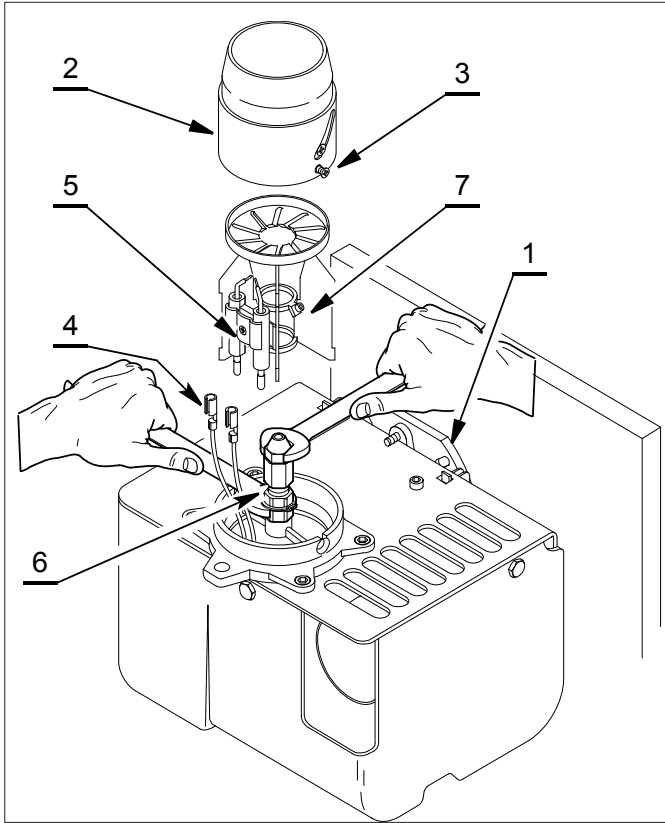
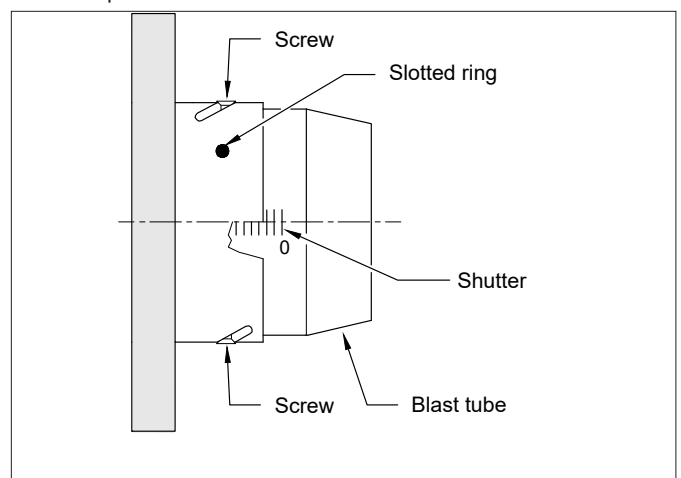

Figure 10-6: Riello RDB 3.2 burner head, diffuser and nozzle holder
Figure 10-8: Riello RDB 3.2 combustion head adjustment
1. Remove the burner head. Refer to Figure 10-6. Loosen both fixing screws (3) and remove head from burner (2).
3. If the nozzle needs to be replaced - Remove the diffuser/ electrode assembly. Refer to Figure 10-6.
- Loosen the diffuser clamp screw (7) and remove the diffuser/electrode assembly from the nozzle holder (6).
- Disconnect both ignition leads (4) from the electrodes.
7. Refer to figure 10-6. Slide diffuser (5) along the nozzle holder (6) until hard against the stop and tighten diffuser clamp screw (7).
9. Re-fit the burner head. Refer to Figure 10-6.
- Tighten the two screws (3) to secure the head (2) in position on the burner.
- In this case the head is set to '4' (i.e. on the 4th line). Refer to Figure 10-8.
- Loosen the two screws in the curved slots in outer ring of the head (NOT the two head fixing screws). Refer to Figure 10-8.